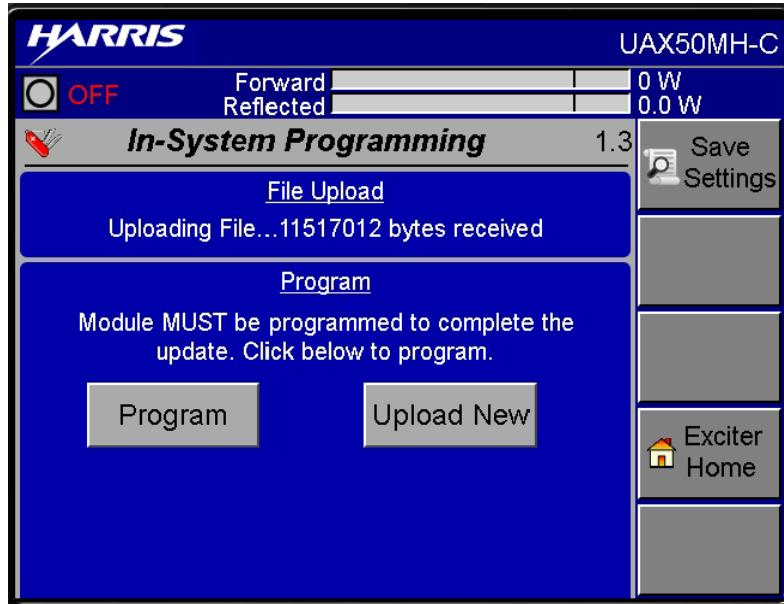

Figure 5-16 In-System Programming Window
STEP 9 There will be a delay of a minute or two and the screen, shown in Figure 5-16, will appear. When it appears, select Program.